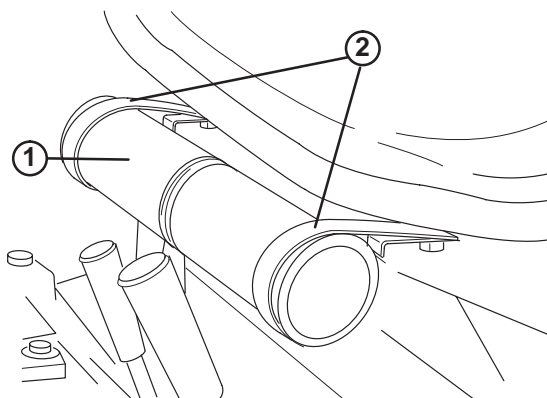

Figure 9
1. Remove manual tube and R-clamps secured to seat plate. Retain (2) mounting capscrews and flatwashers.
2. Loosely mount R-clamps to outer holes in right side of seat with (2) capscrews and flatwashers previously removed. (Fig. 9).
3. Install manual tube into R-clamps, insert manual into tube and thread cap into tube (Fig. 9). Tighten capscrews.